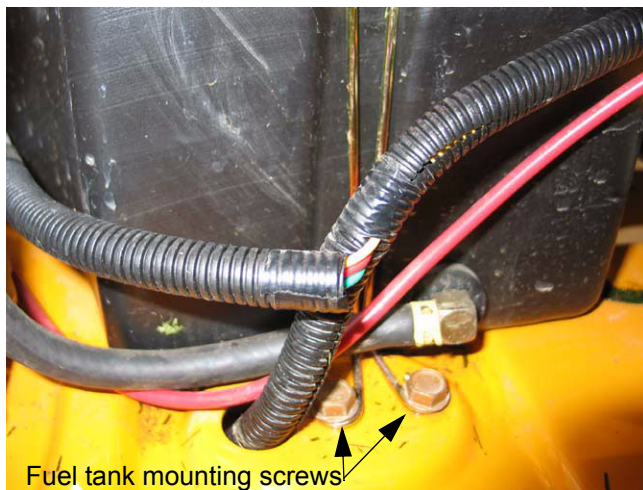

Figure 14.2
- 14.2. Remove the two screws securing the fuel tank mounting wire to the frame using a 1/2" socket. See Figure 14.2.